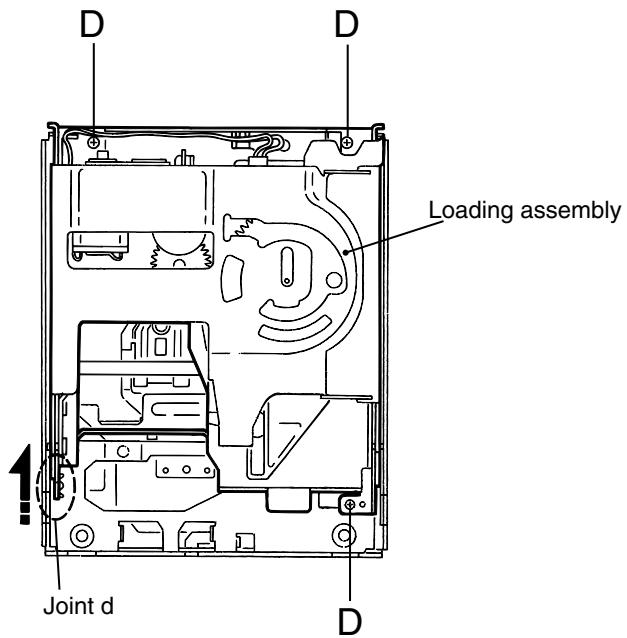

Fig.8
■Removing the Loading assembly (See Fig.8 and 9)